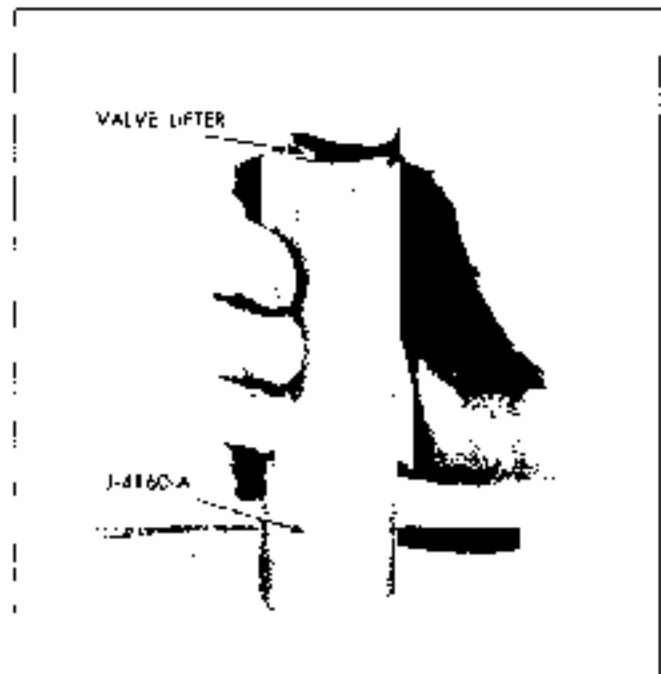

Fig. 6-83 Removing Stuck Plunger
2. Invert lifter and allow push rod seat and plunger to slide out of body. If plunger sticks in body, place lifter in large end of hydraulic valve lifter plunger remover J 4160-A, with push rod end of lifter downward. Hold tool firmly in hand with thumb over lifter body and sharply strike the tool against a block of wood (Fig. 6-83) until plunger falls out.